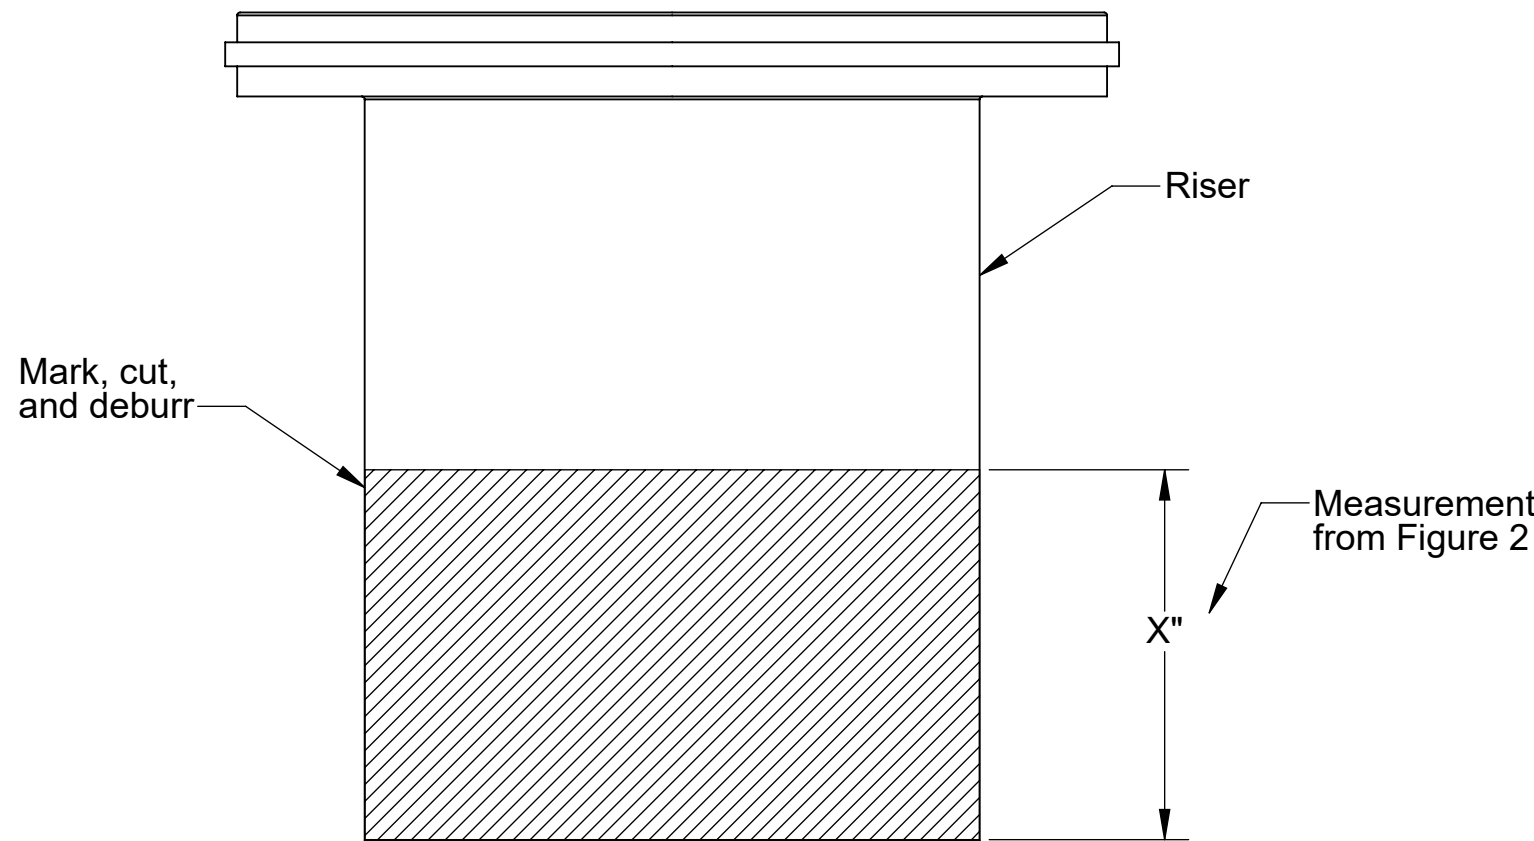

Figure 3
- Remove riser from ring. Take measurement from step 5 from the BOTTOM of the riser upwards towards the top of the riser. Mark a line around the riser, and cut with handsaw, jig saw, or reciprocating saw. Remove debris from cut edge with scraper, utility knife, or gloves. See Figure 3.